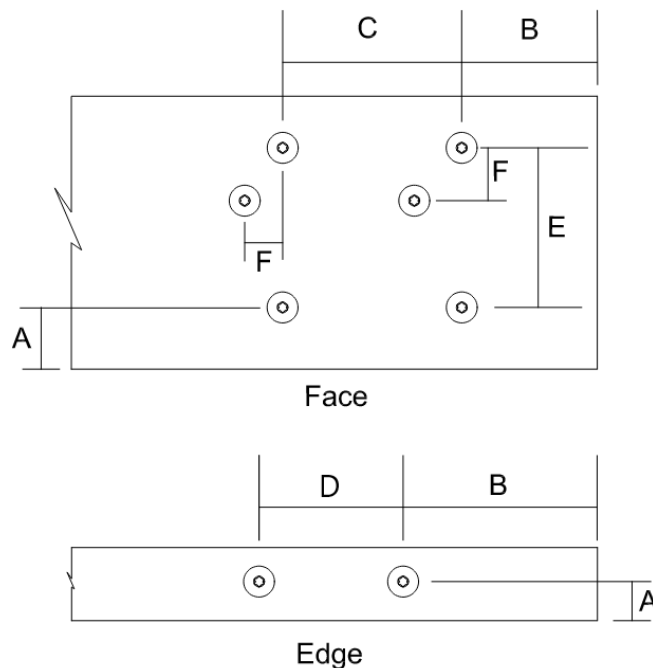

Figure 1. Fastener Spacing in Wood Reference Diagram
- 1.8.1 Minimum requirements for XFT14P-4000 fastener spacing, edge distance, and end distance are found in Figure 1 and Table 2.